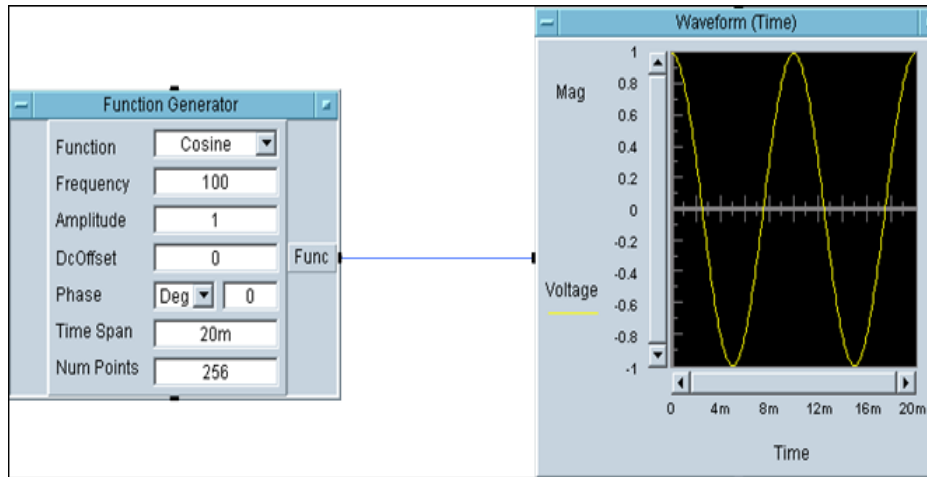

Figure 1-7 Two Connected objects
- 1 Click the Run toolbar button (it is the fifth button from the left on the Toolbar) to run this program; note the waveform in the display. See Figure 1-7;